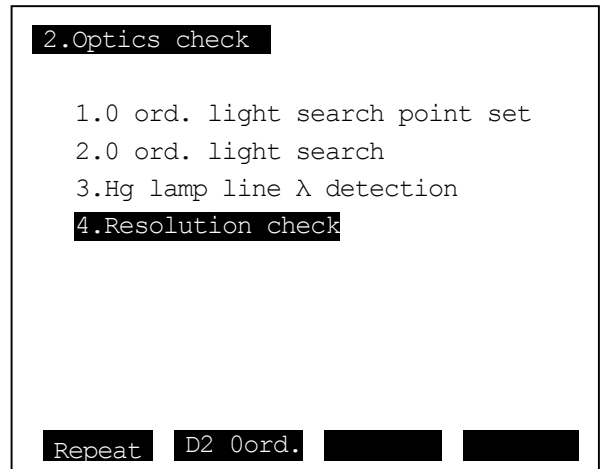

Fig. 8-13 Resolution check
- 4) The resolution check result will be displayed after approximately two minutes as shown in Fig. 8-13. In this example, the resolution is 0.7nm.